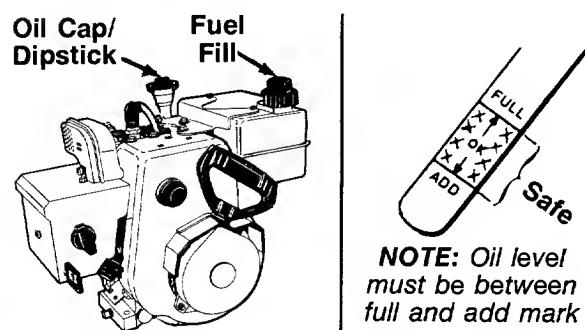

FIGURE 21.
1. Position snow thrower so engine is level. Remove oil fill cap and dipstick. See figure 21. Fill crankcase to **FULL** mark on dipstick (about 1-1/2 pints) with SAE 10W30 motor oil or equivalent. **Do not overfill.** Tighten fill cap and dipstick securely each time you check oil level. If temperature is consistently 20°F. or lower, SAE 5W30 motor oil may be substituted.